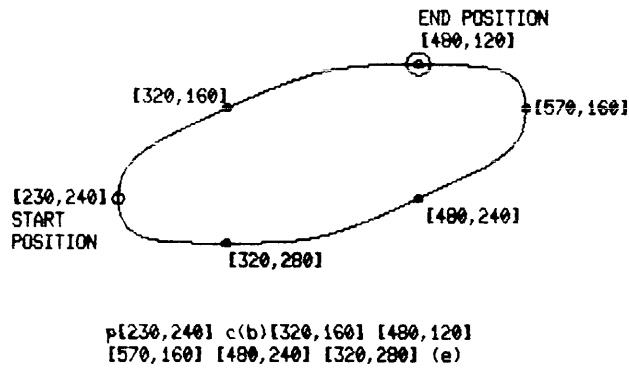

Figure 5-9 Bounded (Closed) Curve
A closed curve is a general curve that is made by interpolating the locations of pixels around four or more specified locations. The closed curve is a bounded shape like the circle (which is a special case of the closed curve) or an ellipse (Figure 5-9). The (B) option saves the beginning position and the (E) option closes the curve by providing the beginning position as the last position specifier for the curve command.